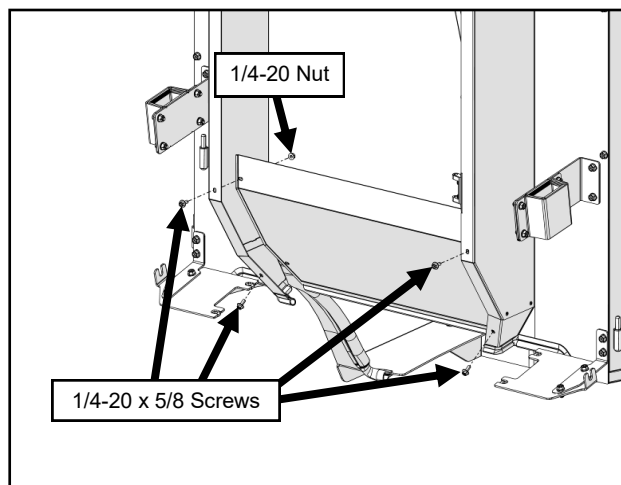

Fig. 9.1 (Lower Rear Panel)
- 9.1 Fasten the lower rear panel to the rear legs as shown in Figure 9.1.